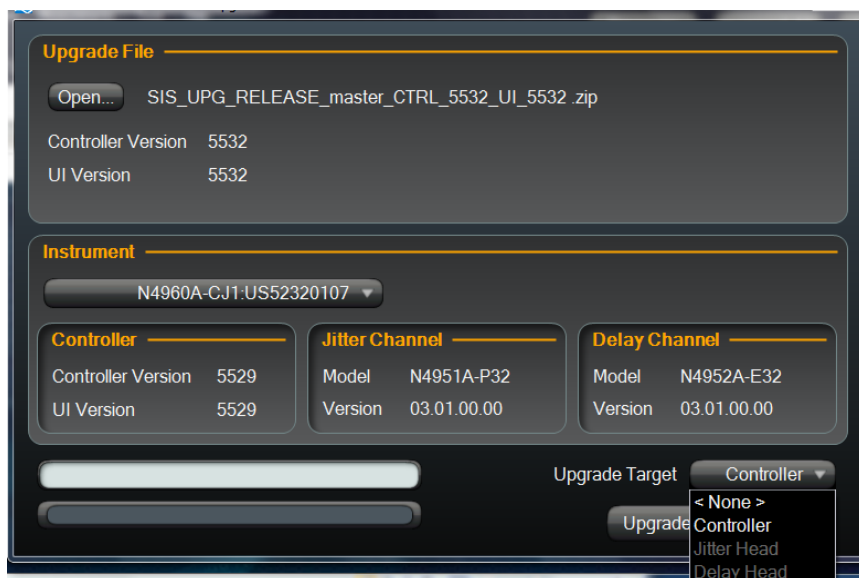

Figure 102. Select target
10. Click on the **Upgrade Target** drop down list box and select the target as shown in Figure 102.